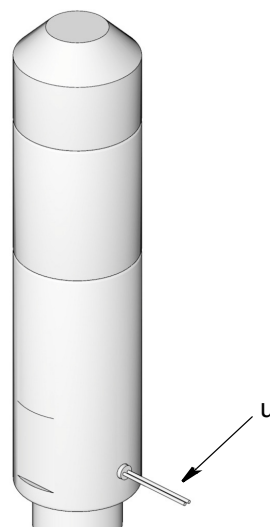

FIG. 14
1. Connect the lead wires (u) on the Low Level Indicator to the (user supplied) alarm device. See FIG. 14.